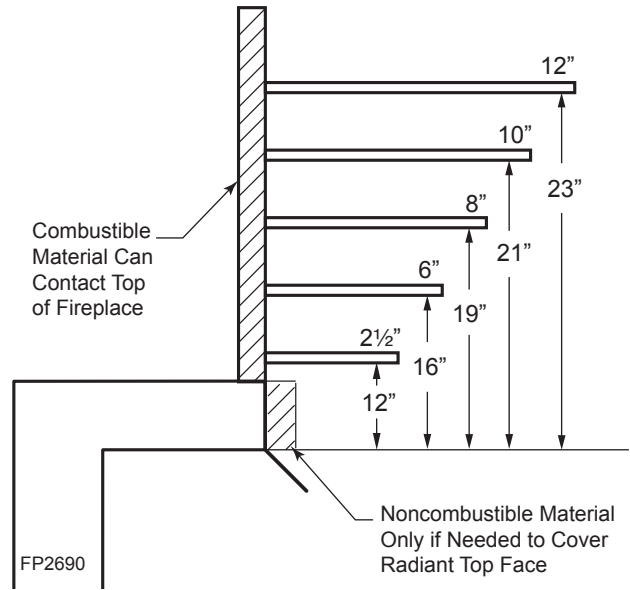
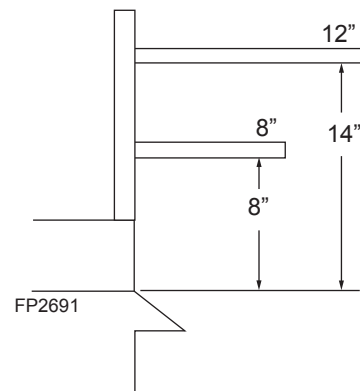

Figure 5 - Mantel Clearances
Figure 6 - Mantel Heights for Wide Profile Canopy
- Mantel clearances:** The canopy supplied with the unit must be installed. If a combustible mantel is installed, it must meet the clearance requirements as shown in *Figure 5*. However, if lower mantel height is desired, refer to Page 14, *Figure 6*.